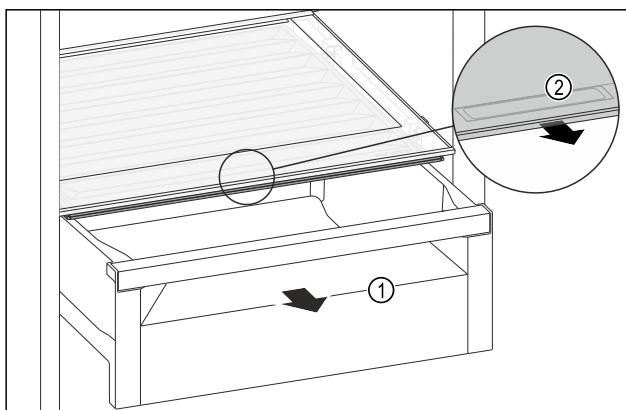

Fig. 122
- ▶ Pull out the drawer Fig. 122 (1).
- ▶ Grip the handle recess Fig. 122 (2) on the lid while pulling the lid forward at the same time.